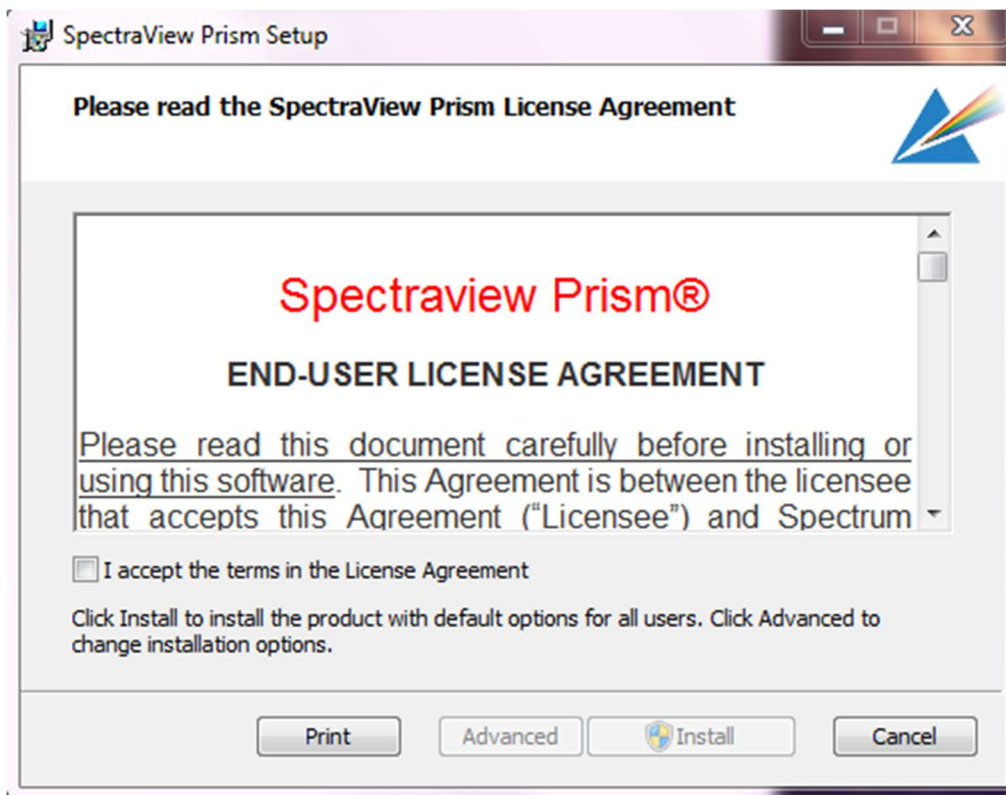

Figure 2-1 SpectraView® Prism End-User License Agreement
1. Double click on the MSI file and the End-User License Agreement, as shown in Figure 2-1, will appear.